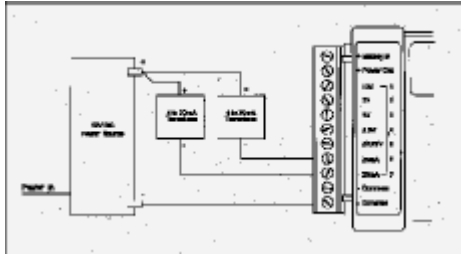
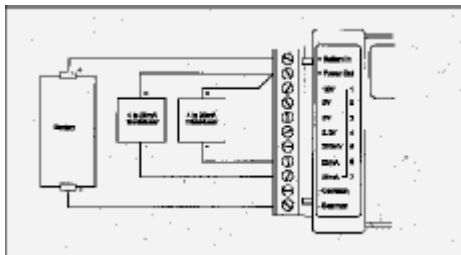

Figure 7-2: Using Transducers with a Power Supply
Figure 7-3: Using Transducers with a Battery
- Decide how you are going to power your transducers (if required). You can either use a standard power supply, creating a circuit like that shown in Figure 7-2 or use batteries, producing your own self-contained logging assembly (Figure 7-3). For this application you must activate the battery switch (see *External Battery Control*).